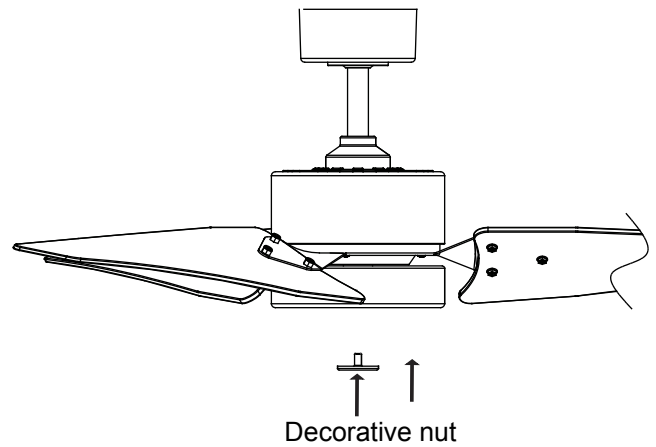

Fig. 17
Step 4. Install the decorative nut by screwing it into the shaft. (Fig. 17)